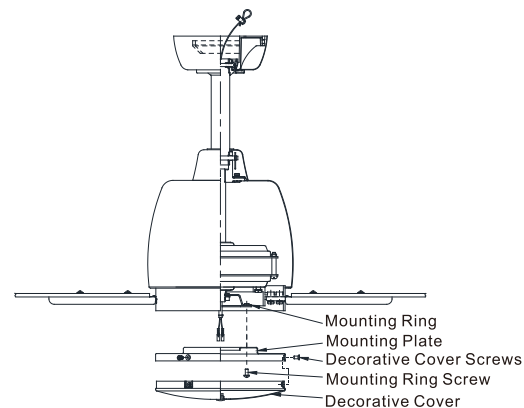

Fig. 16
**Step 1.** Loosen the two screws on the mounting ring attached to the motor shaft and remove and save the third screw. (Fig 16)
**Step 2.** Place the keyhole slots of the mounting plate over the two screws that were previously loosened on the mounting ring. Turn the mounting plate clockwise until it locks in place at the narrow ends of the keyhole slots. Tighten the two keyhole screws, reinstall the third screw that was removed earlier and tighten to secure. (Fig 16)
**Step 1.** Remove the three preinstalled mounting screws from the outside edge of the decorative cover. (Fig 16)
**Step 2.** Insert the decorative cover into the mounting plate with the holes in the outside edge of the decorative cover aligned with the holes in the outside edge of the mounting plate. Thread the three previously removed mounting screws into the decorative cover and mounting plate, and tighten to secure. (Fig 16)